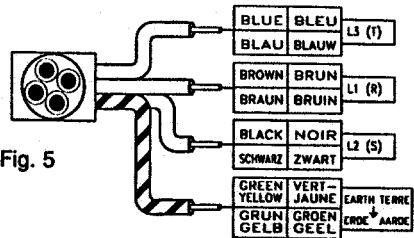

Fig. 5
2. The remaining wires coloured black, brown, and blue should be connected to the terminal marked L1, L2, and L3 or "R, S, and T". (See figure 5)